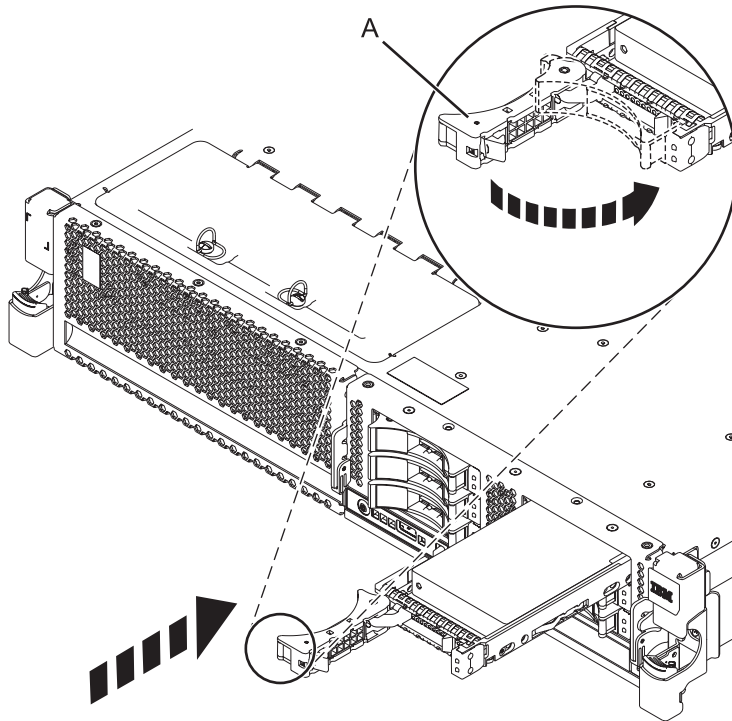

Figure 46. Installing a disk drive in the system
5. When the identify LED flashes, slide the drive all the way into the system, and push the drive handle (A) in until it locks, as shown in Figure 46.